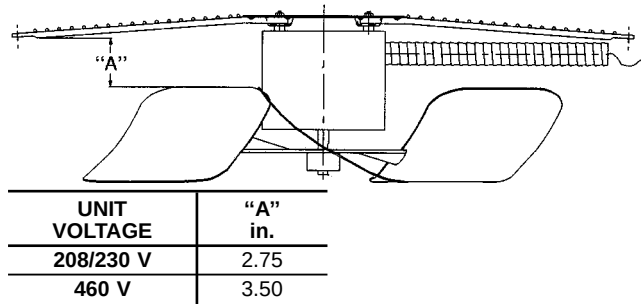

Fig. 33 — Outdoor Fan Adjustment
Outdoor Fan Adjustment (Fig. 33)
3. Adjust fan height as shown in Fig. 33.